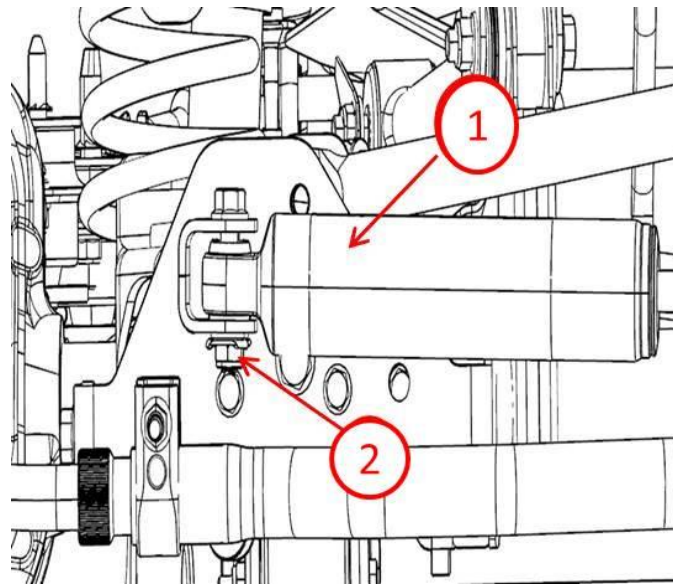

Fig. 6 Steering Stabilizer
18. Install the stabilizer body (1) onto the bracket and reuse the production fasteners (Fig. 6). Tighten the nut (2) to 68 N·m (50 ft-lbs).